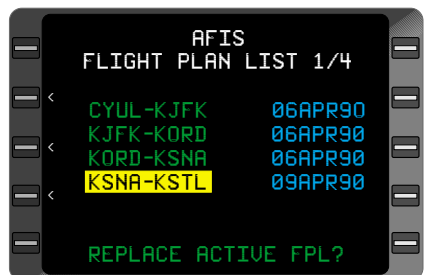

Figure 7-40
3. Line Select Key - DEPRESS to place cursor over desired Flight Plan. (Figure 7-40)